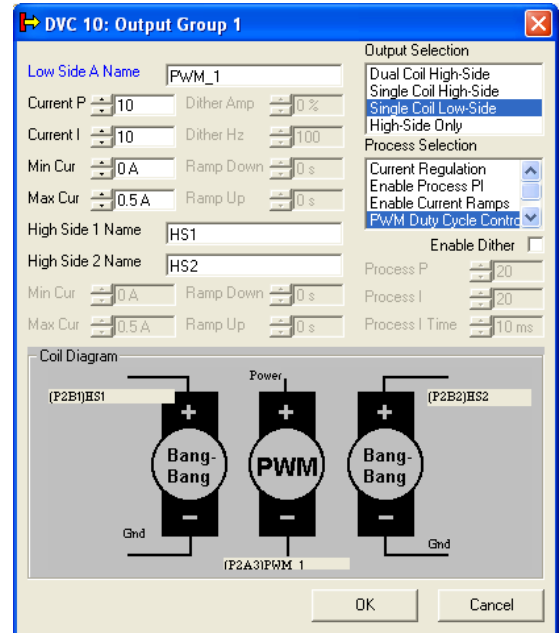

Figure 1
1. Set up the output group as Single Coil Low Side, PWM Duty Cycle, Figure 1